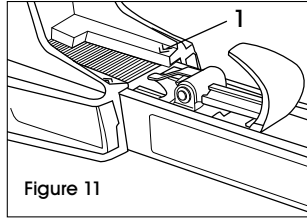

Figure 11
**NOTE:** There is a reloading arrow (1) on both sides of magazine. (See Figure 11) If there are few staples left in the magazine, the staples should be refilled. The correct type of staple is marked on the left side of the magazine. Use the right length of staples for application.